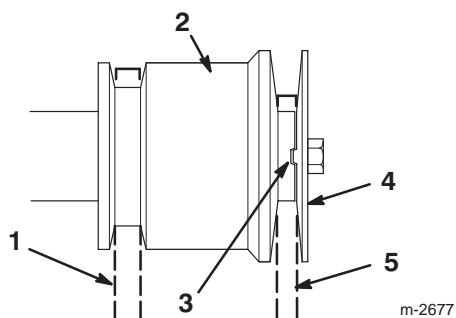

Figure 26
Note: Do not to pinch the traction drive belt (Fig. 26).
15. Install the engine pulley sheave, ensuring that the indexing rib in the engine pulley sheave aligns with the indexing notch in the engine pulley (Fig. 26).
16. Install the washer, lock washer, and crankshaft bolt that secures the engine pulley sheave (Fig. 26).
- Note:** Do not pinch the auger/impeller drive belt (Fig. 26).
Note: Ensure that the indexing rib in the engine pulley sheave aligns with the indexing notch in the center engine pulley. Do not pinch the belt (Fig. 26).